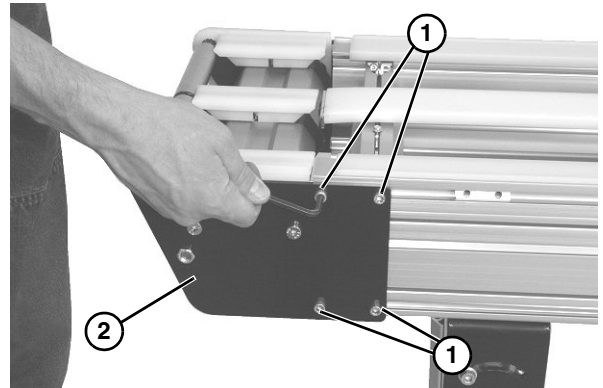

Figure 40
2. On one side of conveyor, loosen the four socket head screws (**Figure 40, item 1**). Repeat on opposite side.
3. Remove idler tail assembly (**Figure 40, item 2**).